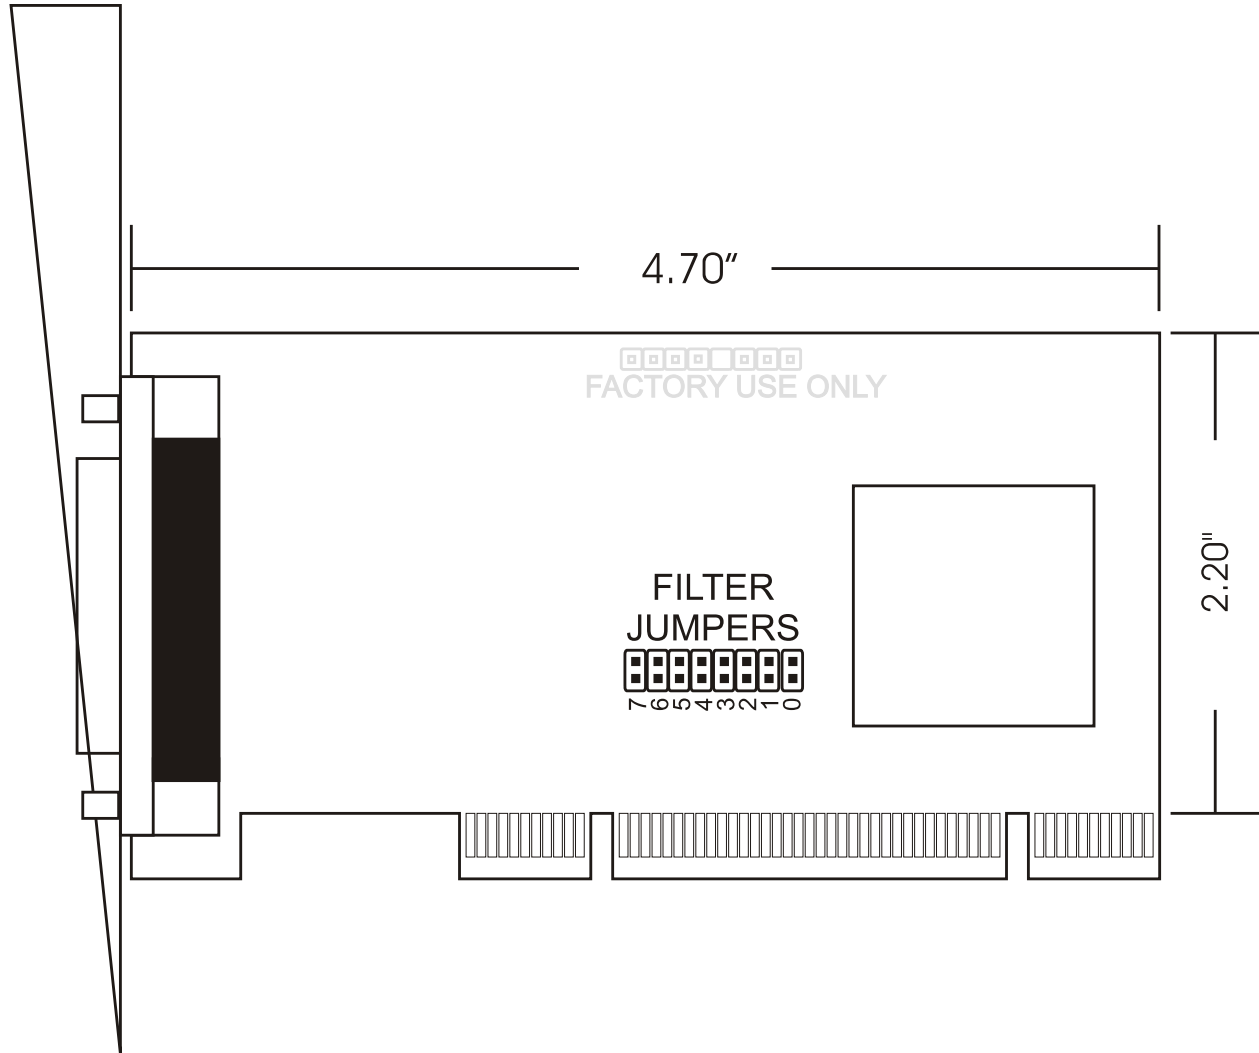

Figure 3-1: Option Selection Map
- Figure 3-1: Option Selection Map 11